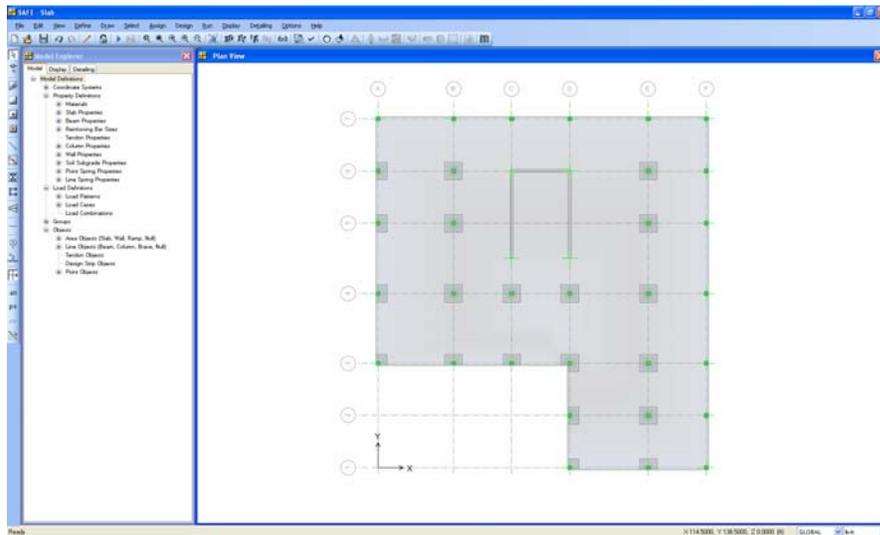

Figure 27 The model after drawing columns and walls
- M. Click on the **Select menu > Select > Pointer/Window** command or press the **Esc** key on the keyboard to exit the Draw Walls command. Your model should look similar to Figure 27.